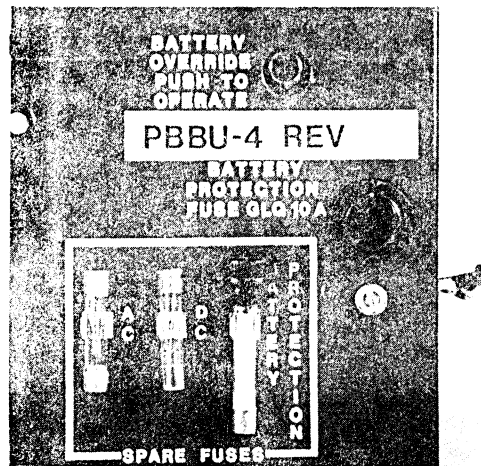

FIGURE 14
02.23 Slip the PBPU fuse holder and battery override button through their respective ports in the control panel (Figure 14). The PBPU mounting bracket should be flush against the rear of the control panel. The harness should flow around the PBPU PCB, with no wires beneath it.
02.25 Use the previously removed screw and secure the mounting bracket to the control panel (Figure 14).
02.28 Depress the battery override button (Figure 14). If it catches and stays in, press it again to cause it to release and protrude out of the control panel. The button must be out for the MPSA to operate normally.
02.32 A "PBBU-4 REV" decal must be placed on the control panel of the MPSA. Remove the decal from the kit, peel the backing off, and place it on the control panel (Figure 14).